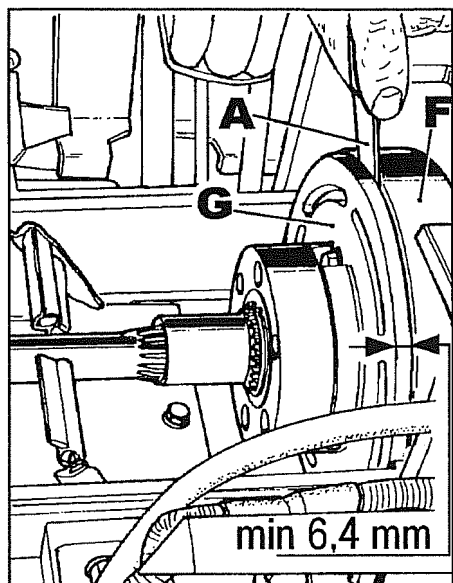

Fig. 8
- 6.1 Use a feeler gauge **A** fig. 8 to check the gap between disks **F** and **G**.
Before making any registration measure the thickness of disk **G** fig. 8 which must not be **6.4 mm** or less because, in this case, the clutch should be replaced.